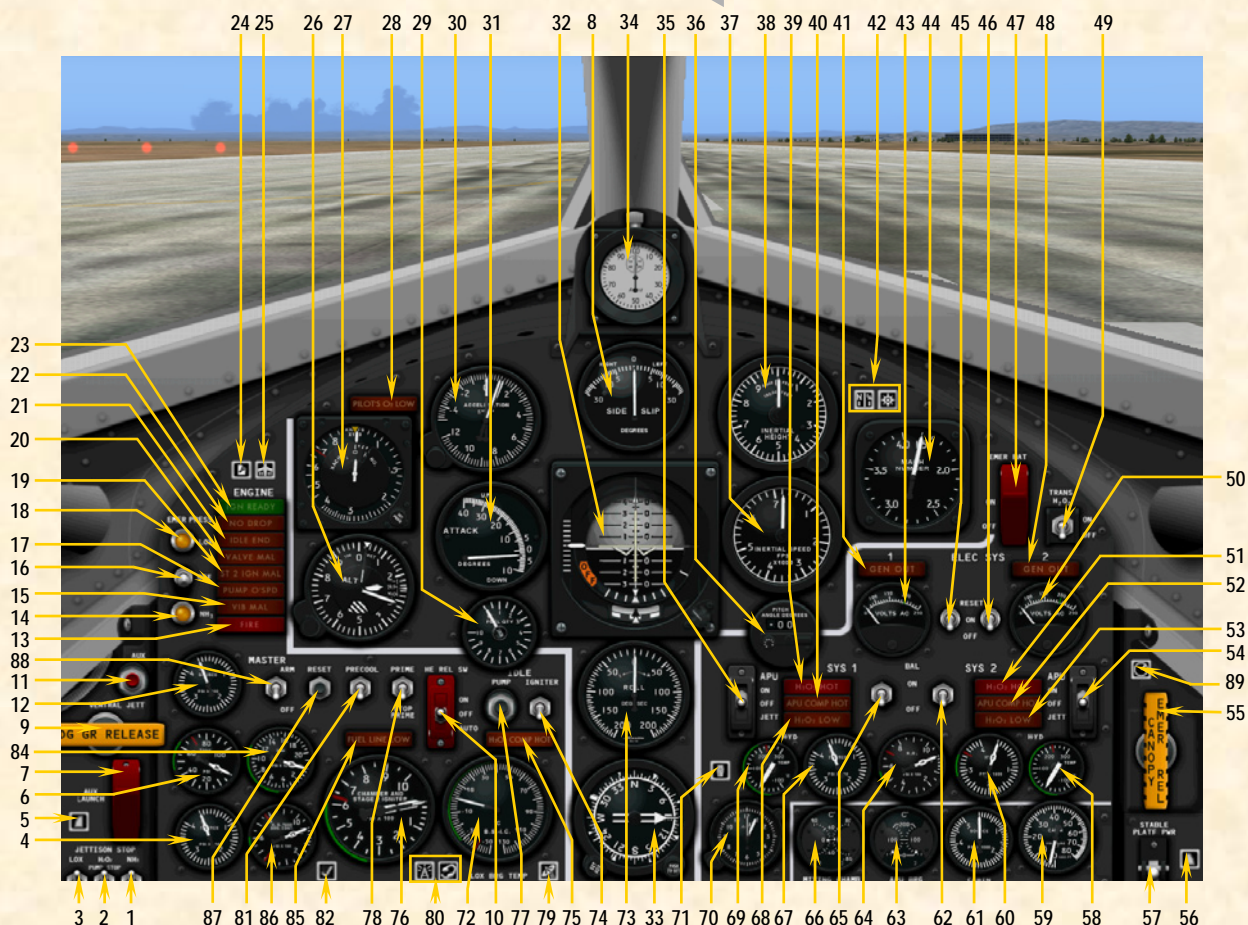

Figure 4-1
19. Mixing chamber temperature gauge [66, fig. 4-1, 4-2, 4-3; 61, fig. 4-4] – **Check**.
20. APU bearing temperature gauge [63, fig. 4-1, 4-2, 4-3; 62, fig. 4-4] – **Check**.
21. Cabin source pressure gauge [61, fig. 4-1, 4-2, 4-3; 59, fig. 4-4] – **Check**.
22. Cabin pressure altimeter [59, fig. 4-1, 4-2, 4-3; 60, fig. 4-4] – **Check**.
1. Click the **DISPLAY/HIDE CENTER PEDESTAL** icon [71, fig 4-1, 4-2, 4-3, 4-4] at the center of the main panel to display the center pedestal (or select **CENTER PEDESTAL** from the “Instrument Panel” menu, under the “View” menu of the main Flight Simulator window menu bar).
1. APU switch No. 1 [35, fig. 4-1, 4-2, 4-3; 67, fig. 4-4] – **ON.** As APU No. 1 comes up to speed, hydraulic pressure will increase and then stabilize at 3000 to 3500 psi.
2. No. 1 generator switch [45, fig. 4-1, 4-2, 4-3; 44, fig. 4-4] – Move No. 1 generator switch momentarily to **RESET**, then to **ON**.
3. No. 1 generator out (amber) light [41, fig. 4-1, 4-2, 4-3; 42, fig. 4-4] – Check **OFF**.
4. APU switch No. 2 [54, fig. 4-1, 4-2, 4-3, 4-4] – **ON.** As APU No. 2 comes up to speed, hydraulic pressure will increase and then stabilize at 3000 to 3500 psi.
5. No. 2 generator switch [46, fig. 4-1, 4-2, 4-3; 49, fig. 4-4] – Move No. 2 generator switch momentarily to **RESET**, then to **ON**.
6. No. 2 generator out (amber) light [48, fig. 4-1, 4-2, 4-3; 47, fig 4-4] – **Check OFF.**
7. Stable platform power switch [57, fig. 4-1, 4-2, 4-3; 58, fig. 4-4; 9, fig. 4-7] – **INT (up position).**
10. No. 1 generator voltmeter [43, fig. 4-1, 4-2, 4-3; 45, fig. 4-4] – **Check (200 volts, internal).**
11. No. 2 generator voltmeter [50, fig. 4-1, 4-2, 4-3; 45, fig. 4-4] – **Check (200 volts, internal).**
12. Hydraulic pressure gauge [60, fig 4-1, 4-2, 4-3; 36, fig. 4-4] – **Check (both pointers, 3000 to 3500 psi).**
13. Chamber and stage 2 igniter pressure gauge [76, fig. 4-1, 4-2, 4-3; 28, fig 4-4] – **Check (both pointers, 0 psi).**
14. Liquid oxygen bearing temperature gauge [72, fig. 4-1, 4-2, 4-3] – **Check.**
15. H2O2 source and purge pressure gauge [4, fig. 4-1, 4-2, 4-3, 4-4] – **Check (pointers 1 and 2, 3000 to 3900 psi).**
16. H2O2 tank and engine control line pressure gauge [86, fig. 4-1, 4-2, 4-3; 79, fig. 4-4] – **Check (both pointers, 575 to 615 psi).**
18. Turbopump idle button [77, fig. 4-1, 4-2, 4-3; 78, fig. 4-4] – **Push once.** This will start the engine turbopump and hot exhaust gas will be emitted at the back of the aircraft.
19. Propellant manifold pressure gauge [84, fig. 4-1, 4-2, 4-3; 72, fig. 4-4] – **Check (both pointers, 300 to 450 psi).**